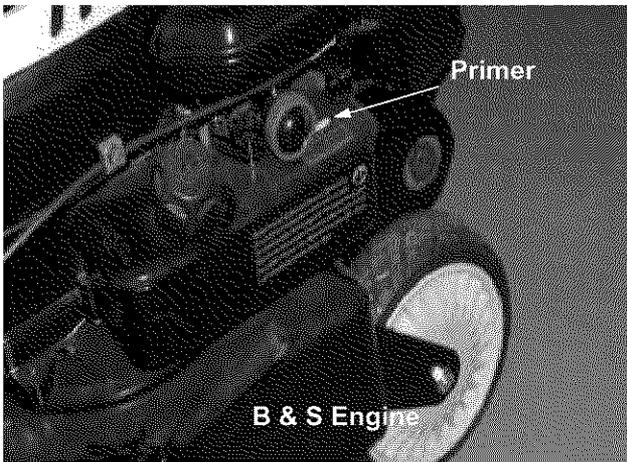
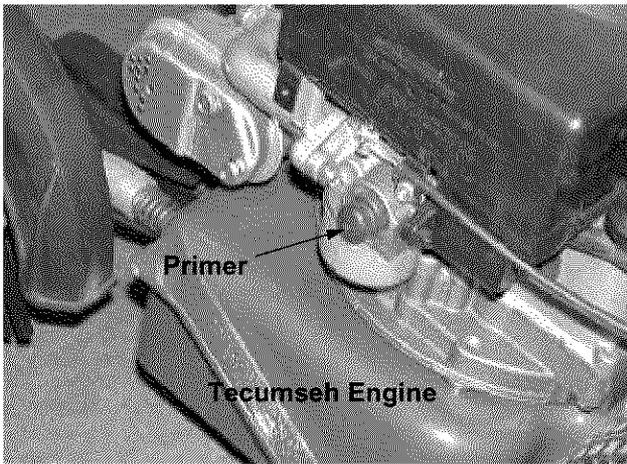

Figure 7
Figure 8
4. Push the primer bulb in two or three times. Wait two to three seconds between each push. In cold weather (below 50 degrees F/19 degrees C) push five (5) times. Refer to Figure 7 or Figure 8.